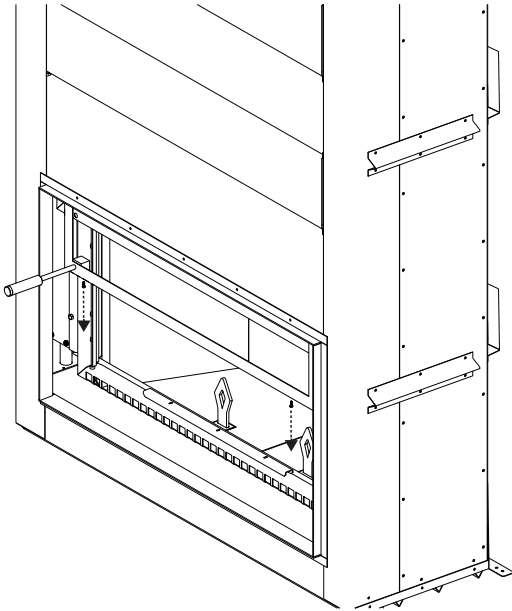

FIG 1:
- Unscrew the top and bottom retainers inside door frame. **(FIG. 1)**
- A. Insert the handle and lift the screen slightly up to remove the 2 screws on the bottom inside of the screen frame. **(FIG. 1)**
- A.** Remove screws from brackets and slide rear panel (1) out of smoke chamber. Repeat for both side panels (2, 3) (**FIG.1**).
- F.** Slide side panels then rear panel into smoke chamber and install brackets. (**FIG.1**)